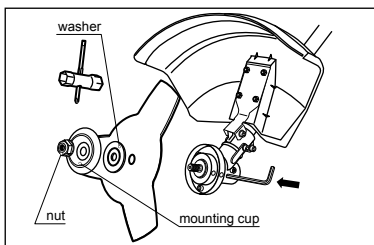

fig. 8
- While holding the locking rod with one hand, tighten the nut securely with a tubular key (supplied), turning it counterclockwise (fig. 8).